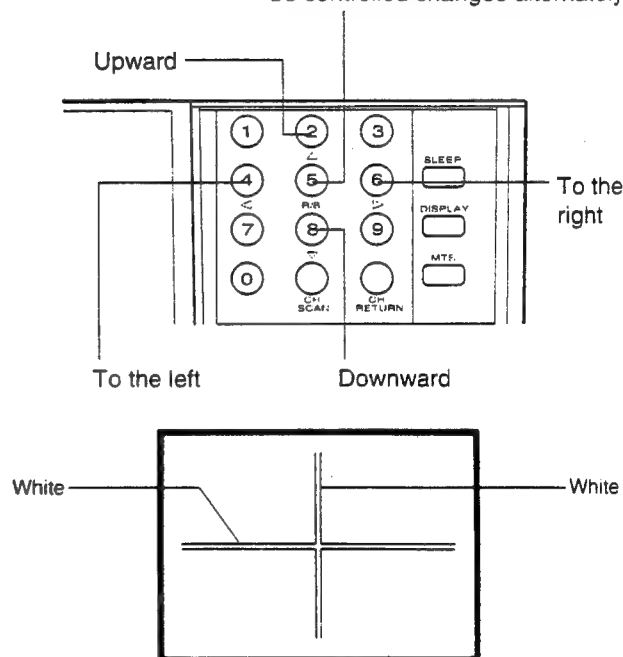

Fig. 1 Correctly aligned
- 3 Press the MENU SET button on the control panel. If color convergence is correct, there will be one vertical white line and one horizontal white line, as shown in figure 1.